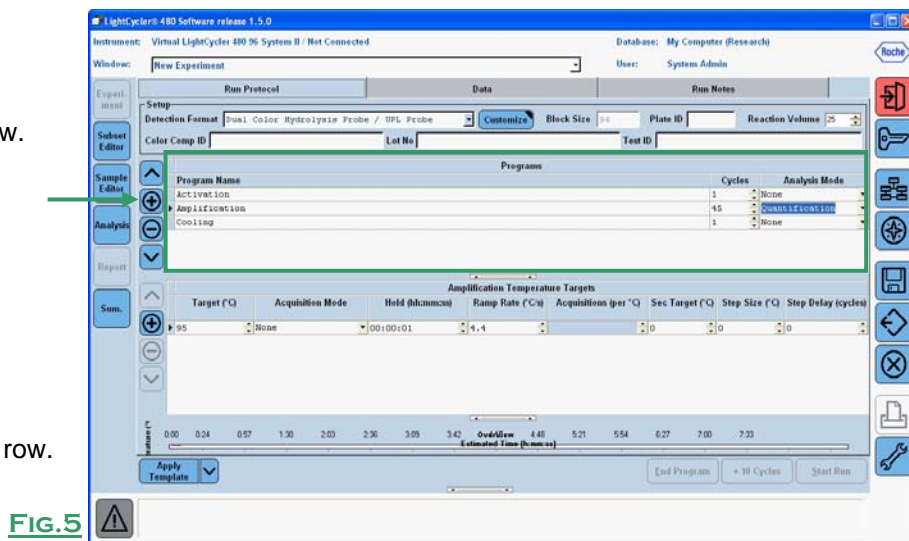

FIG.5
- In **PROGRAM NAME** column (Fig.5):